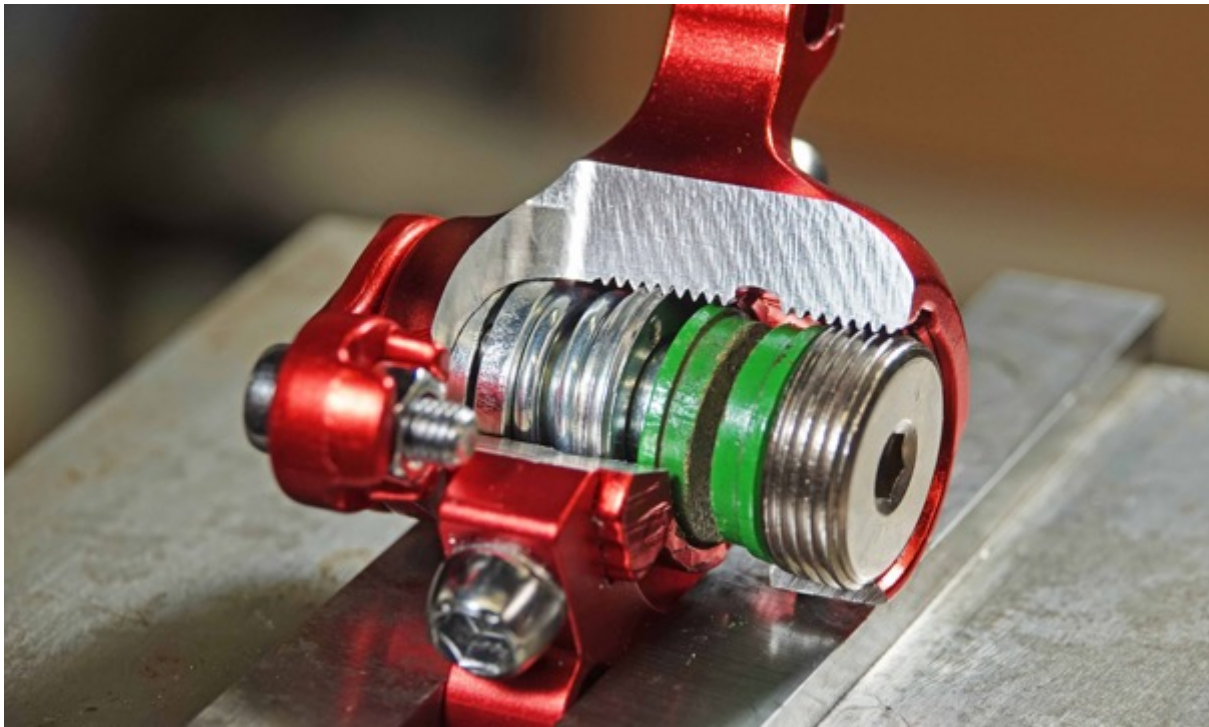

Figure 6 Arm in the relaxed position.
7. Most importantly, the axial position (or tightness) of the Retention Ring determines how far the Piston and the attached Piston Cam can move. See figures 6 and 7 below. The limit is reached when the spring binds, or is fully compressed against the Retention Ring.